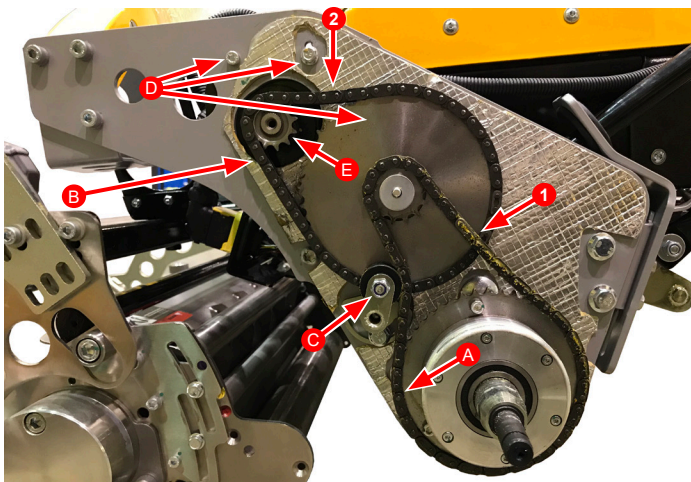

Figure 24
To adjust tension of chain (A) in Figure 24:
1. Loosen chain tensioner (C).
2. Adjust chain tensioner assembly until the chain travel distance measures between 10-14 mm (1).
3. Secure chain tensioner (C).
To adjust tension of chain (B) in Figure 24:
1. Loosen the three nuts (D).
2. Adjust position of motor (E) until chain travel distance measures between 8-12 mm (2).
3. Re-tighten all three nuts (D).